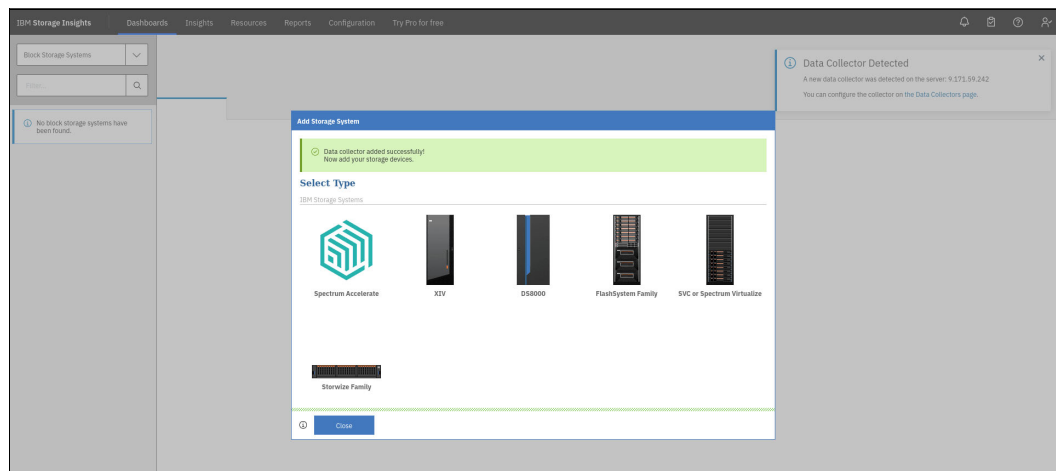

Figure 9-34 Adding storage systems to IBM Storage Insights
5. After the data collector is installed and communication is established, the IBM Storage Insights Dashboard view starts with an Add Storage System prompt, as shown in Figure 9-34.